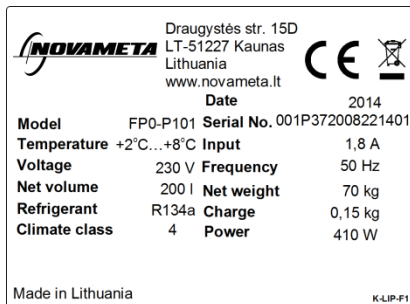

Fig. 8. Example of the nameplate
The unit is intended for connection to alternating current. The connection values for voltage (V) and frequency (Hz) are given on the nameplate. The nameplate shown in the fig. 8 is intended purely as an example.